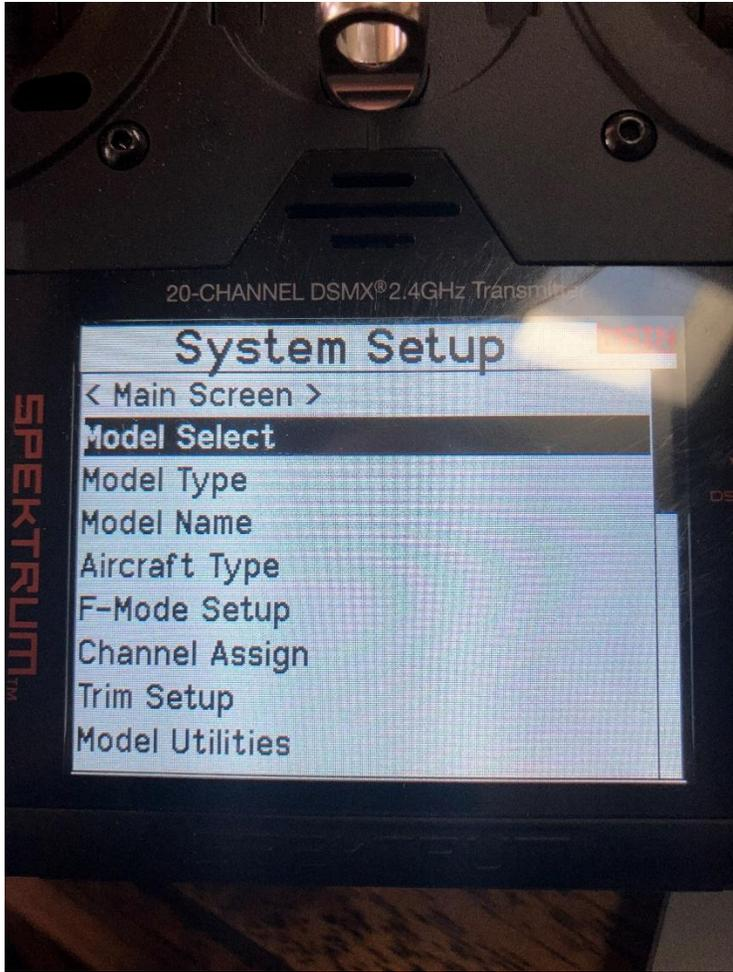

Figure 2.0 System Setup Screen-Model Select option
- c. From the **System Setup** list scroll to the **Model Select** option and click it. *Figure 2.0 Model Select* shows this option.